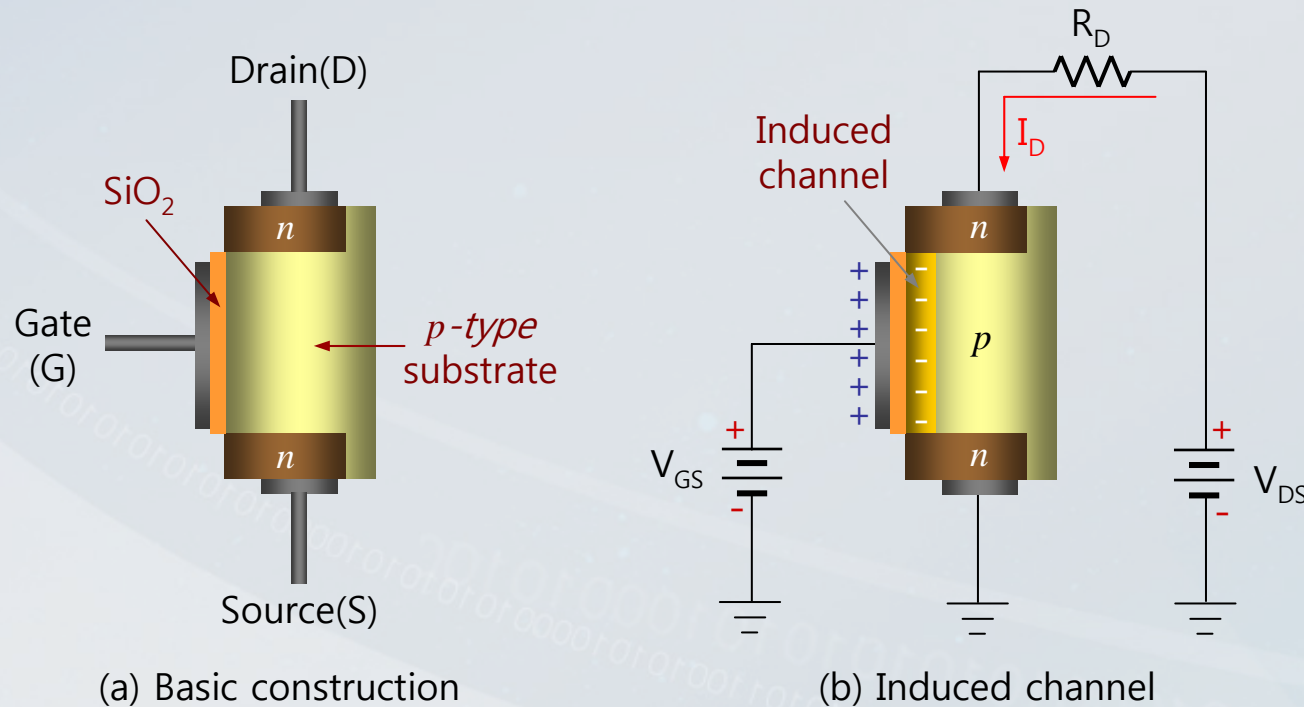

Figure 1-41. E-MOSFET construction and operation(n-channel).
- For an n-channel device, a positive gate voltage above a threshold value **induces** a channel by creating a thin layer of negative charges in the substrate region adjacent to the SiO_2 layer, as shown in Figure 1-41(b).